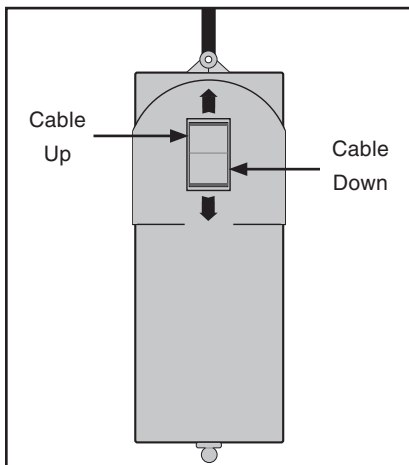
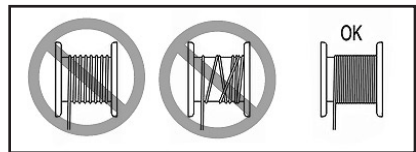

Figure 6. Controller.
Figure 9. Proper cable winding.
2. Grab the lift hook and pull it away from the hoist while using the control handle to lower the hoist cable a few feet by pressing the switch in the down position (**Figure 6**).
2. Grab the lift hook and pull it away from the hoist while using the control switch to lower the hoist cable by pressing the switch in the down position (Figure 6).
6. Use the control switch to retract the cable (Figure 6). Watch or have an assistant view the cable as it winds up on the hoist spool. To prevent damage to the hoist cable, make sure that the cable is wound evenly, as shown in **Figure 9**.